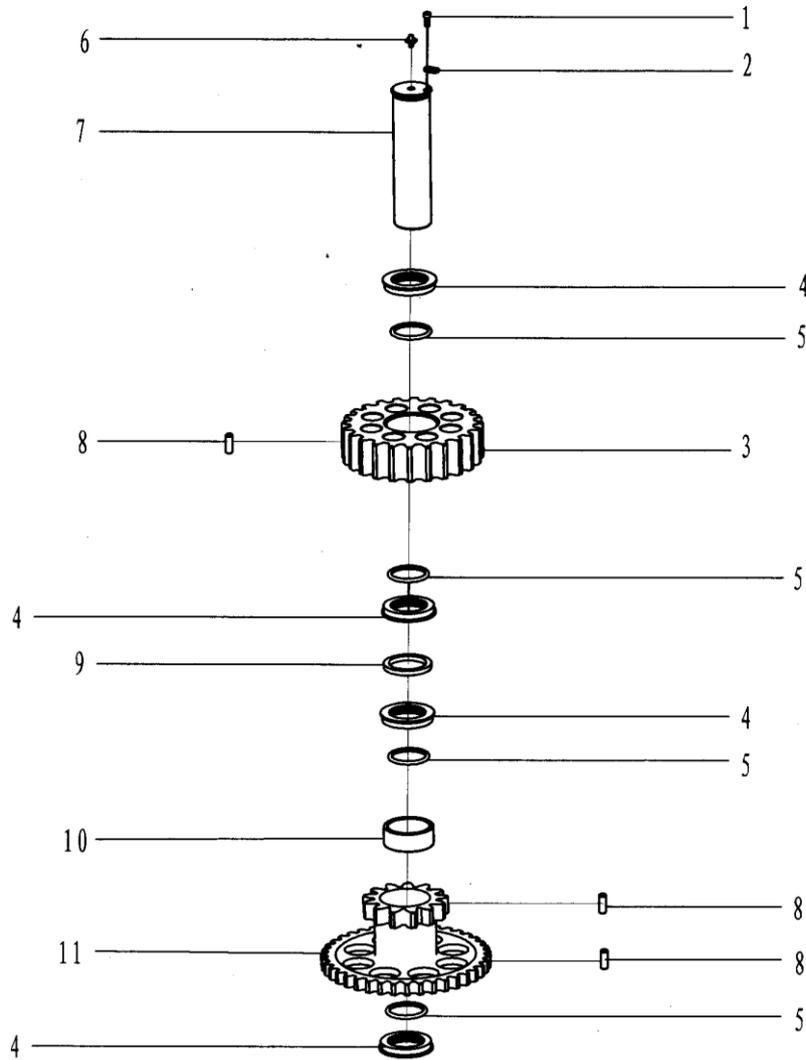

Fig7. Duplex gear assembly
7.2.5 Duplex gear assembly (Fig7. Table7)